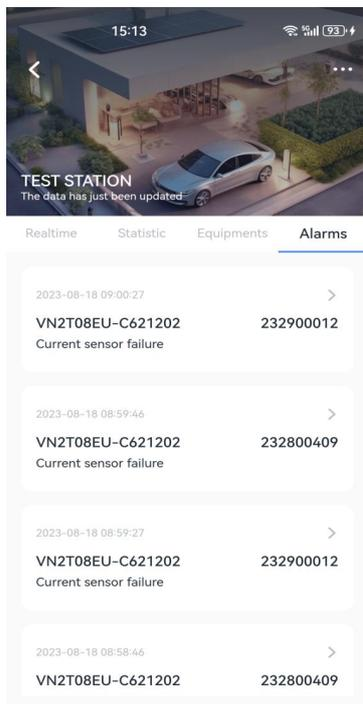

Figure 8.4.1
- Under the equipment category, users can view the abnormal information generated during the operation of the power station (not displayed if there are no abnormalities) (as shown in Figure 8.4.1)